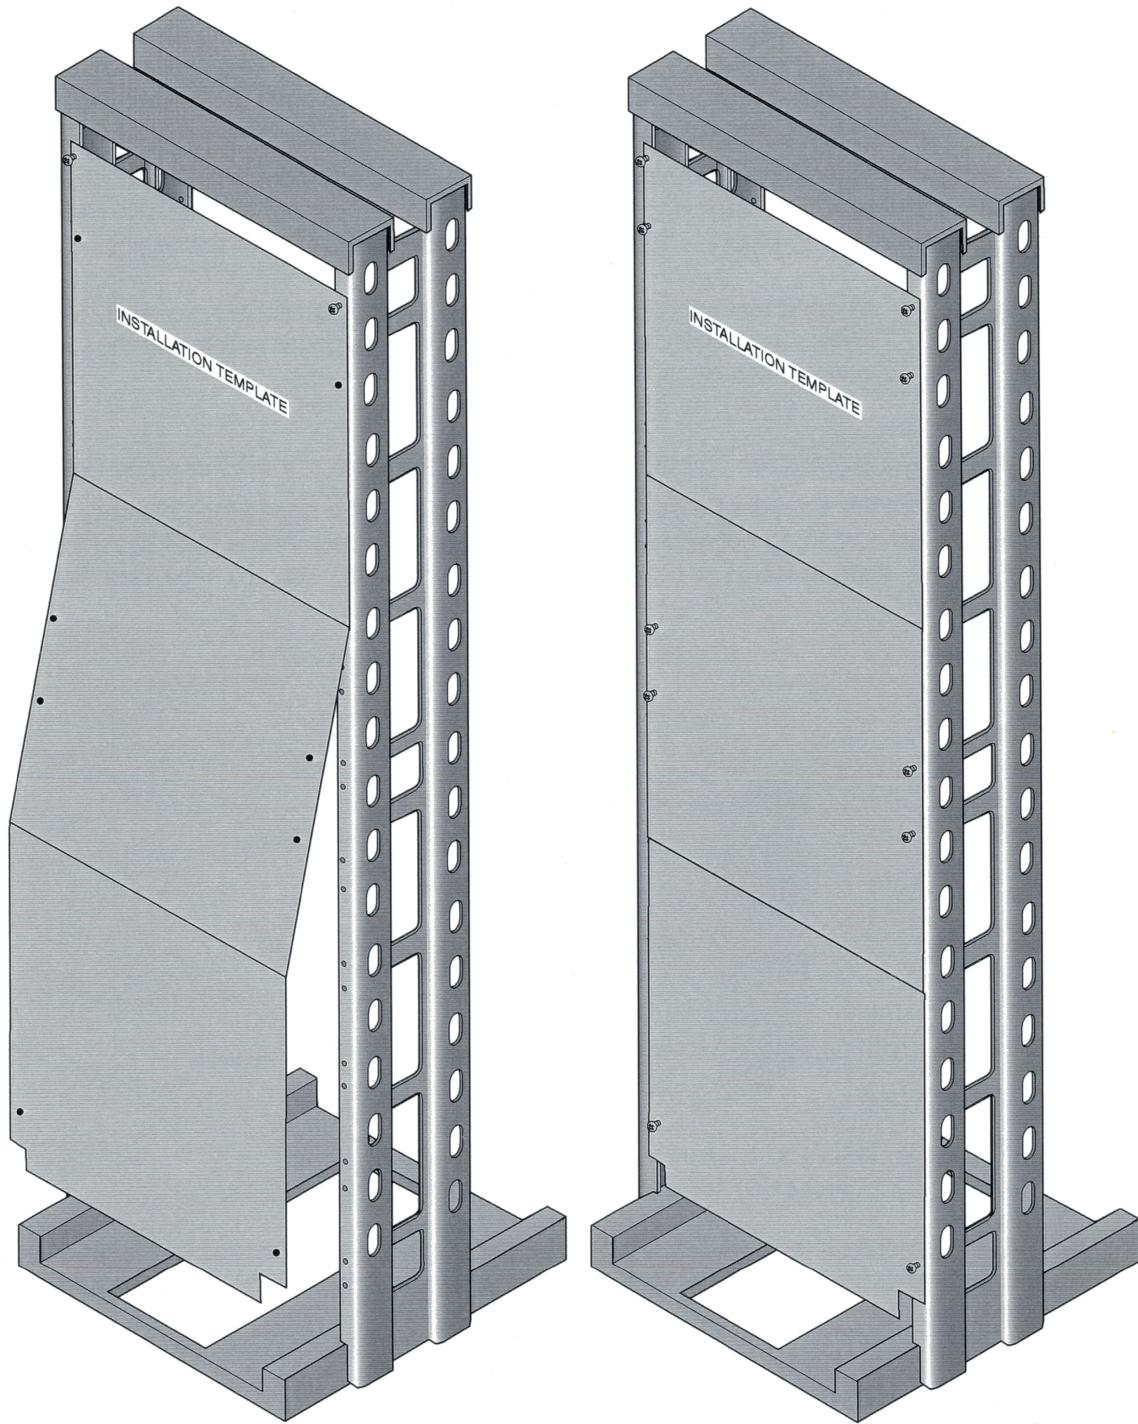

Figure 7 Placement of Installation Template on the Rack
1. Unfold the Installation Template, locate the top, and hold the template up to the rack. Set the bottom edge of the template near the base of the rack, and check the spacing between the top of the rack and the top of the template. The length of the template is equal to the length of a 43 U installation of a PDU and two shelves. For a 43 U rack, the base of the template should be nominal 1/8-inch from the top of the base of the rack. See Figure 7.
2. When the positioning of the template on the rack is satisfactory, install two keyhole slot screws through the holes in the top of the template and thread them partway into the rack. Allow the template to hang from these keyhole slot screws. These are the first two of the 10 keyhole slot screws necessary for an installation of two shelves and a PDU in a 43 U rack. These two keyhole slot screws will be used to support the PDU later in this chapter. See Figure 7.
3. Insert keyhole slot screws through the remaining 8 holes in the template and thread them partway into the rack. If the holes on the template do not line-up with the holes in the rack, refer to Figure 7 again and recheck the orientation of the template.